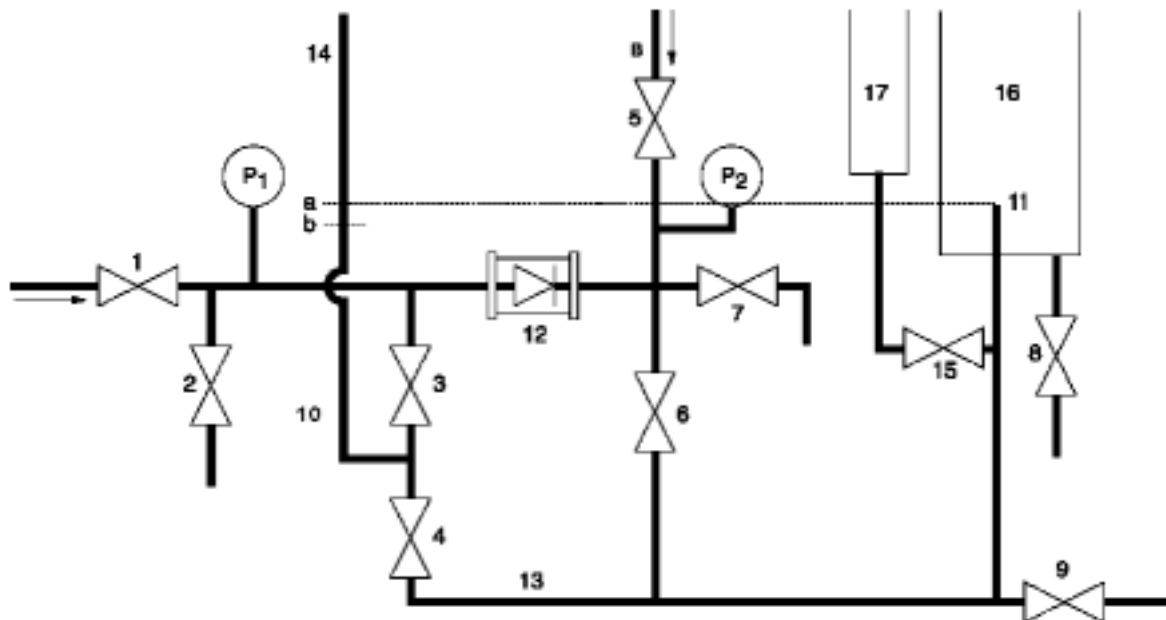

FIG 03
A supply of water to achieve the test flow rates. (Reference Figure 03).
The example of the test equipment shown in Figure 03 is for guidance only.
- (1) Mount the device in the test system in its normal working position. (Reference Figure 03).
- (2) Close all the valves.
- (3) Open valves '3', '4', '6', '7' and '8'.
- (4) Open valve '1', fill pipe '12' and branch circuits '10' and '13'. Purge the air by means of valve '7' and pipes '14' and '11'. Close valve '7' when the air has been removed from the circuit.
- (5) Slowly close valve '1' so as to keep a meniscus at the top of the pipe '11'.